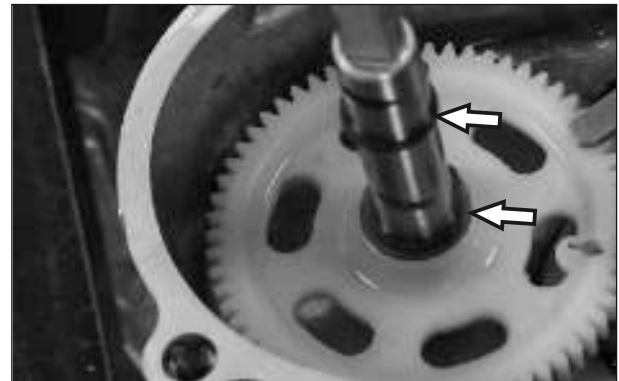

Fig. 3.29
- Remove 2nos.Circlip external from gear shift shaft along with washer(12x1.0) (Fig. 3.29)